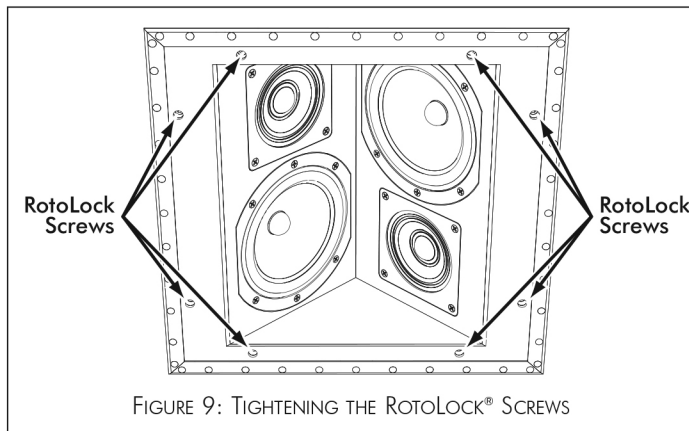

FIGURE 9: TIGHTENING THE ROTOLOCK® SCREWS
4. Using the supplied hex bit, tighten the screws on the front of the speaker baffle. The RotoLock clamps will automatically rotate into position and begin clamping the speaker. When you notice resistance on the screws the speaker has been clamped successfully. See Figure 9.